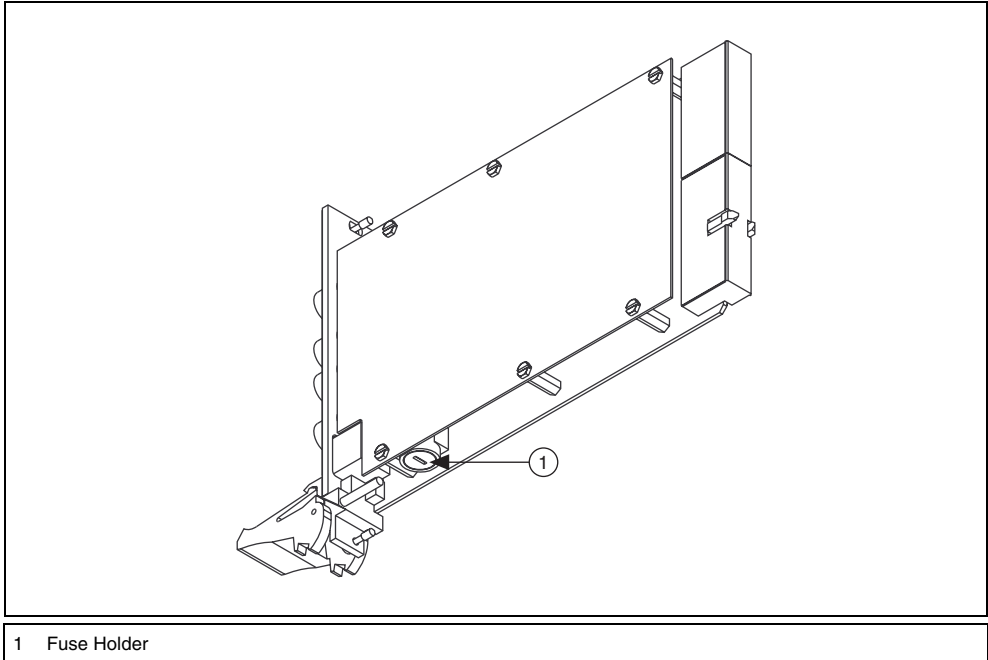

Figure 22. Locating the Fuse on the NI PXI-4060
3. View the device at the angle shown in Figure 22, and locate the fuse holder.